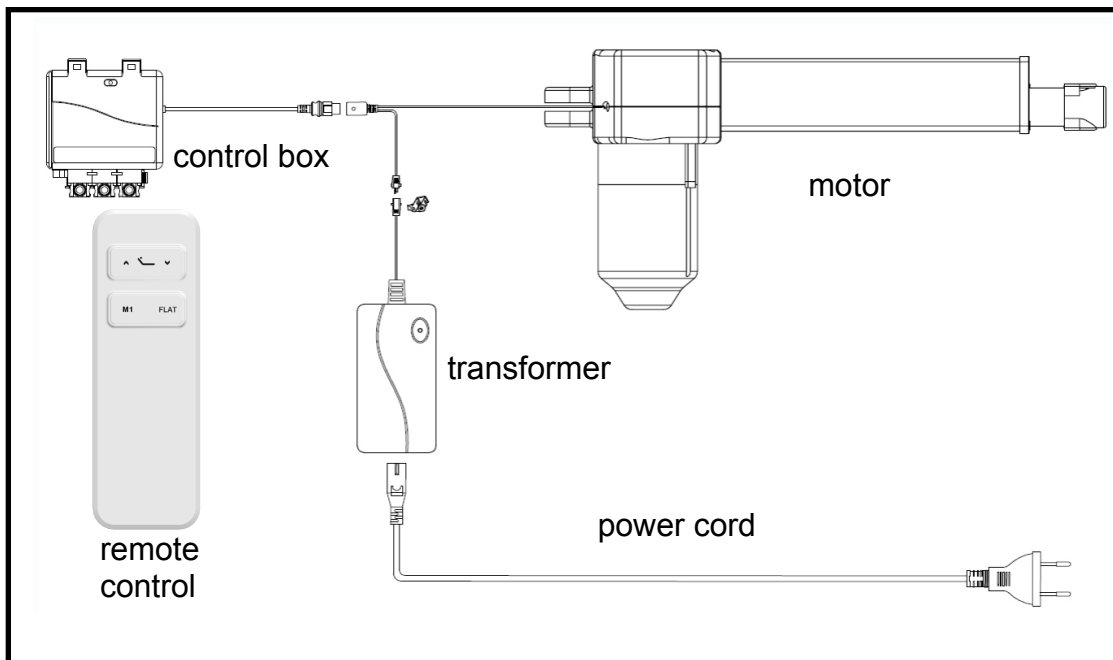

Figure 1
- Extend the Power Cord “D” and plug it into the Transformer “E”. (See Figure 1)